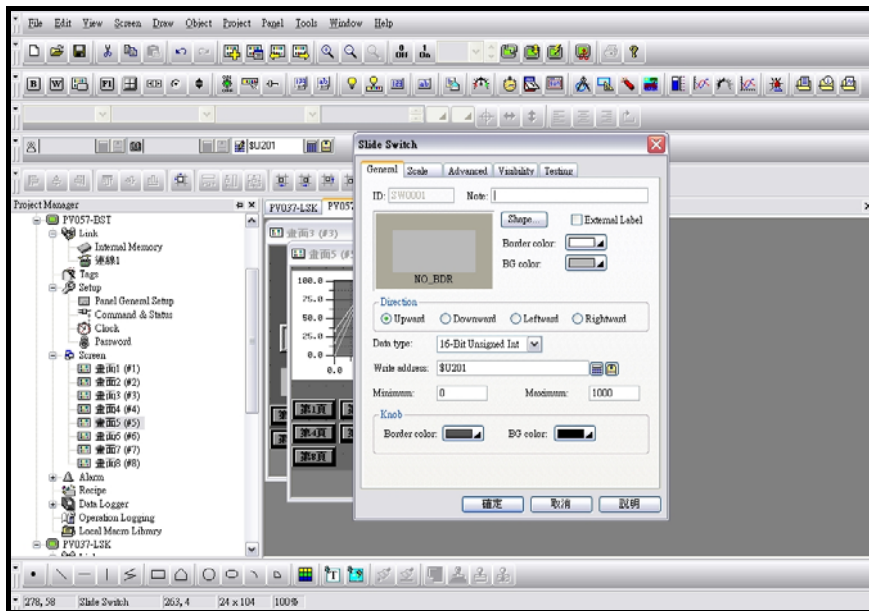

Figure 2-97 New project \_ step 6\_ Object properties setting dialogue box.
**Step 6 :** When complete all settings, users can start to design needed screens. Double left click the mouse to get further setting dialogue boxes. To move or adjust any object by moving checks on the edges , see as shown in figure 2-97.